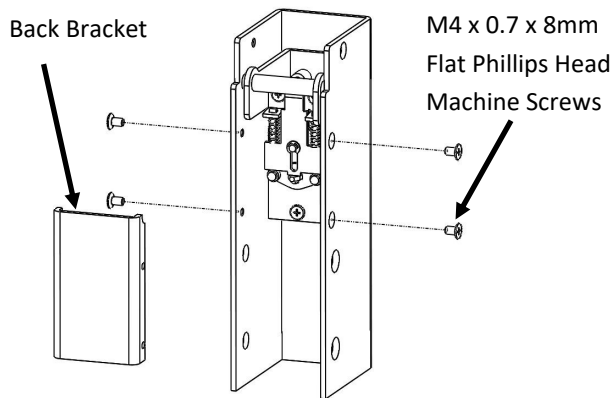

Figure 1
- A. Remove the four M4 x 0.7 x 8mm Flat Phillips Head Machine Screws that hold the Back Bracket onto the Top Fitting. Remove the Back Bracket. (Figure 1)
- F. Reinstall the Back Bracket by reinstalling the four M4 x 0.7 x 8mm Flat Phillips Head Machine Screws. (Figure 1)